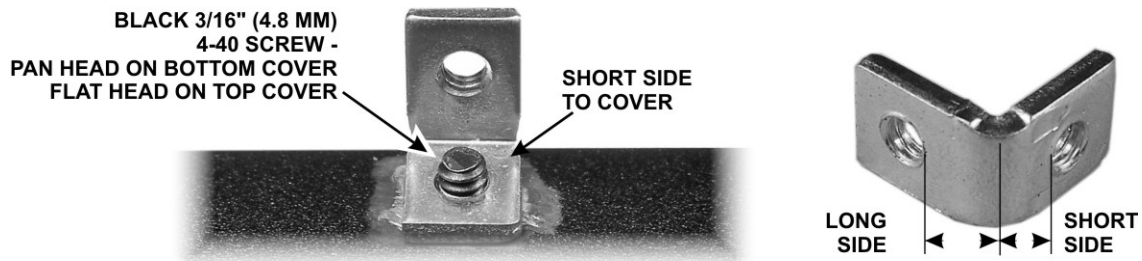

Figure 10. Installing Angle Brackets on the Covers.
At the mid-point along each side of the bottom and top covers is a screw hole. Mount the four angle brackets in these holes as shown in Figure 10. Be sure all six holes of each cover have clean metal on the *inside* surface. **Do not remove paint on the outside surface!** Be sure to use pan head screws on the bottom cover brackets and flat head screws on the top cover brackets. The holes in the top cover are counter sunk for the flat head screws. Check to ensure the brackets are oriented as shown. If you install the bracket backwards the case parts will not fit correctly.
2. Mount the two side panels after checking to ensure there is bare metal around the screw holes on the inside for good electrical contact. Although the panels are identical, they only fit one way so the holes align with the fasteners. If a screw binds or does not line up properly, loosen the other screws holding the 2D fastener or the screw into the L- bracket so it can move slightly for better alignment. If a side panel seems pushed away from the top and bottom covers at the center, check the L-bracket carefully. The usual cause is an L-bracket installed incorrectly (see Figure 10).
The top, bottom and sides are supported at the center by L-brackets (Figure 10 on page 40).